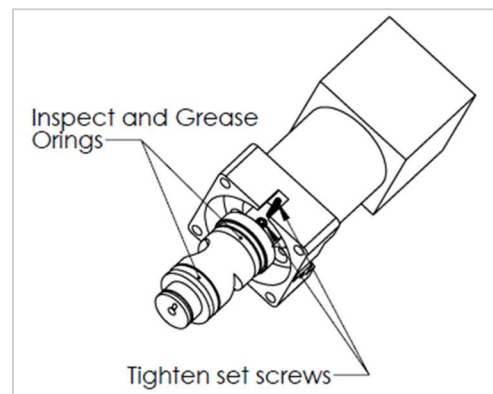

Figure 7.8
- Once separated (as seen in Figure 7.8) inspect the O-rings for damage. Replace as necessary. The plug O-rings are Viton -115. Grease lightly with a silicone-based O-ring lubricant. Tighten the set screws that secure the motor shaft to the plug.